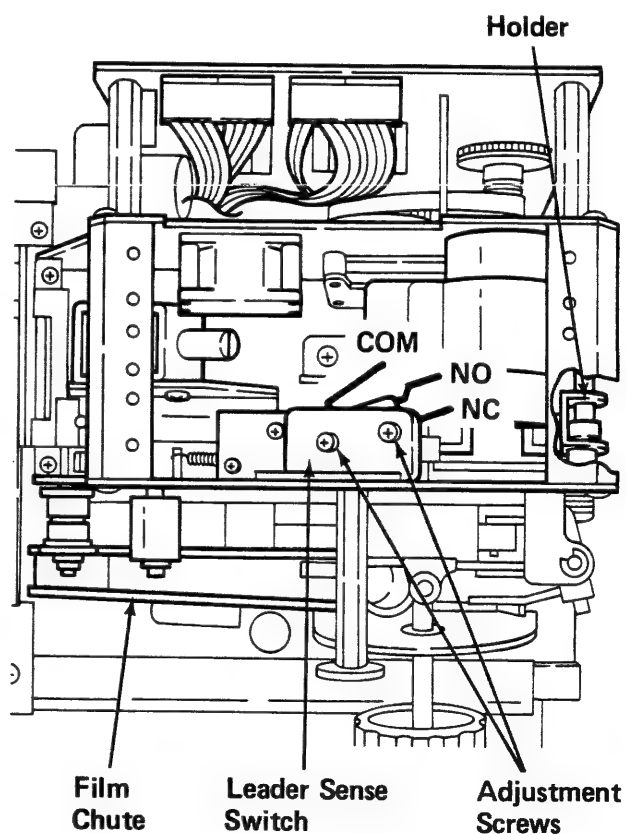

Figure 3-10.7A
8. Connect the Black Lead of a Voltmeter to the Common Terminal (left) of the Leader Sense Switch (S8). See Figure 3-10.7A.
9. Connect the Red Lead of a Voltmeter to the Normally Open Terminal (middle) of the Leader Sense Switch (S8). See Figure 3-10.7A.
1. Loosen the Adjustment Screws (Figure 3-10.7A and adjust the Leader Sense Switch (S8) so that when the switch arm is depressed by the film leader the Voltmeter reads 0 vdc, and when the switch arm is deactuated the voltmeter reads approximately 5 vdc.